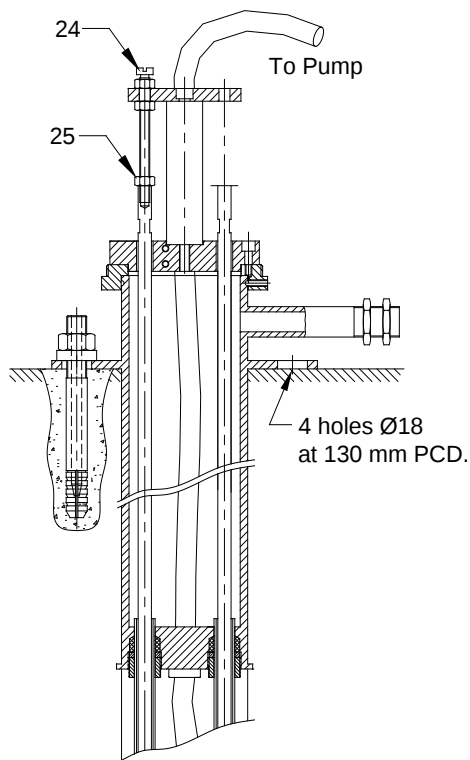

Figure 3.2 – Setting arrangement for 3 point BHE
- 3.3.11 Assemble cheese head screw (24) and locking nuts (25) as shown in figure 3.2. Slightly loosen hollow bolts (12) related to holes '1', '2' and '3'. Adjust end of connecting rod in required position and tighten the lock nuts (24). To set connecting rod ends, refer to table below: